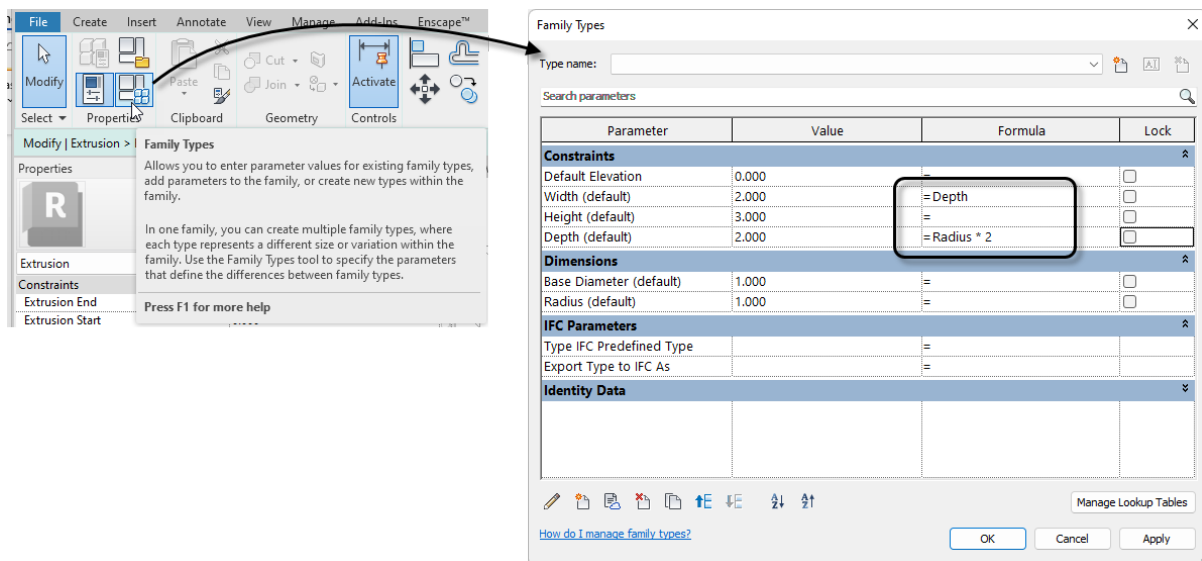

Figure 5—Link the three parameters together with formulas
8. Open the “Family Types” dialog. In the Formula column next to **width**, Type: **Depth**. For the Formula next to **Depth**, type: **Radius * 2** (see Figure 5).